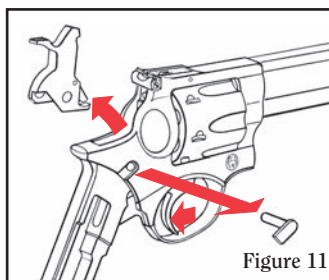

Figure 11
5. Hold the trigger in the rearward position and *lightly* strike the pivot pin to release it from the frame. Lift the hammer out of the top of the frame while the trigger is held in the rearward position (see Figure 11).